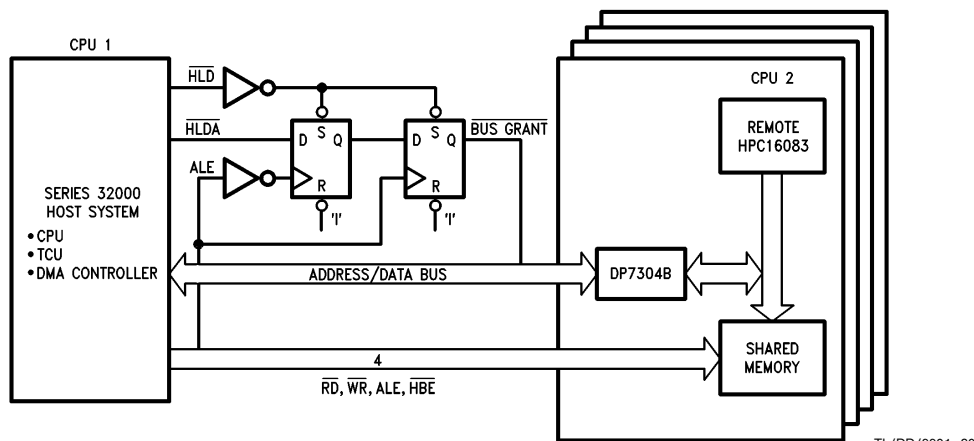

FIGURE 28. Shared Memory Application: HPC16083 Interface to Series 32000 System
*Figure 28* illustrates an application of the shared memory interface between the HPC16083 and a Series 32000 system. To insure proper operation, the interface logic shown is recommended as the means for enabling and disabling the user's bus.